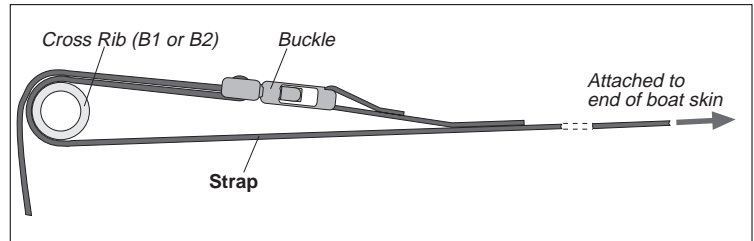

Figure 4, Securing Cross Ribs (B1) and (B2)
10. Locate the *strap* attached to the front end of the *boat skin* and secure *cross rib (B2)* as shown in *Figure 4*.
12. Locate the *strap* attached to the rear end of the *boat skin* and secure *cross rib (B1)* as shown in *Figure 4*.